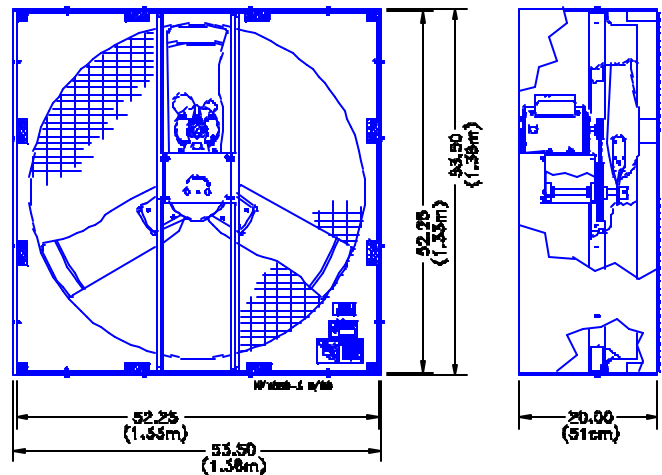

Figure 2.
6. Figure 2 shows the dimensions of the 48" Crated Fan. The outside dimension is with the crate on the fan and the inside dimension is with the crate off.